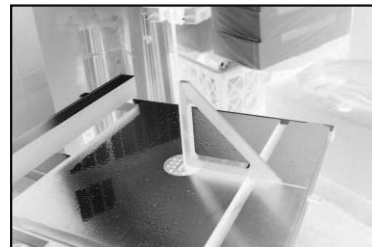

Fig. 6
- Use a protractor placed on the table and against the blade,(A, Fig. 6) to see if the table is 90 degree to the blade.